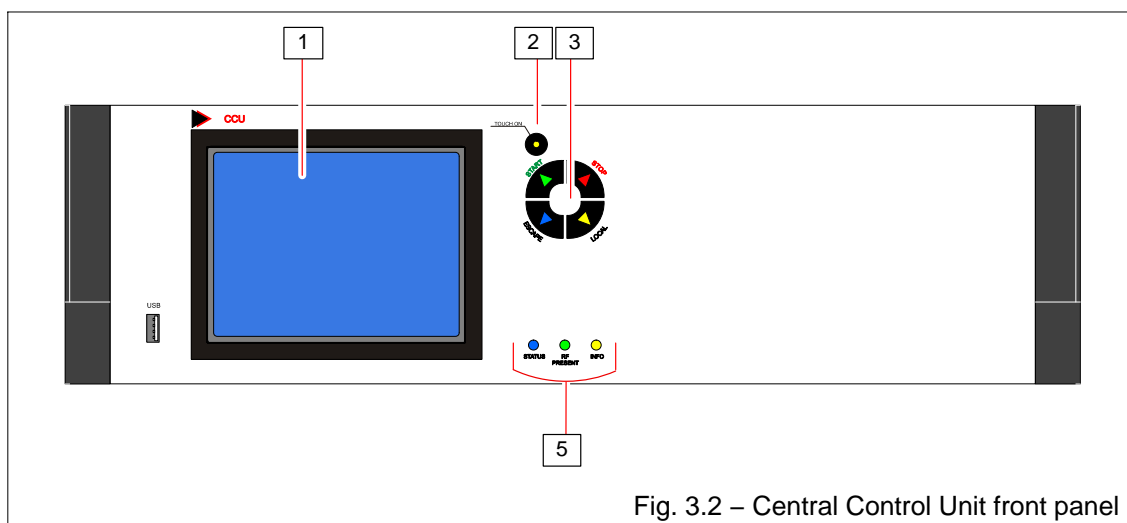

Fig. 3.2 – Central Control Unit front panel
- Tab. 3.2 refers to Fig. 3.2 which is the call out of “Central Control Unit” front panel
Tab. 3.2 – Central Control Unit front panel legend (ref. Fig. 3.2)